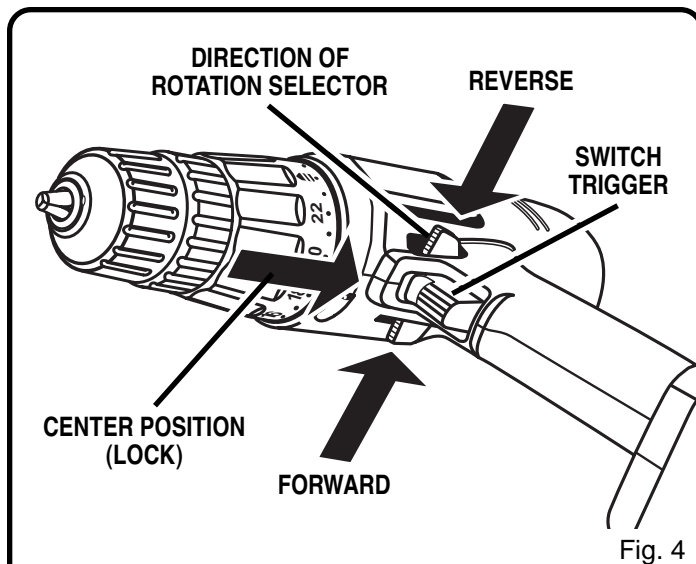

Fig. 4
See Figure 4.
- Place the direction of rotation selector in center position. *See Figure 4.*